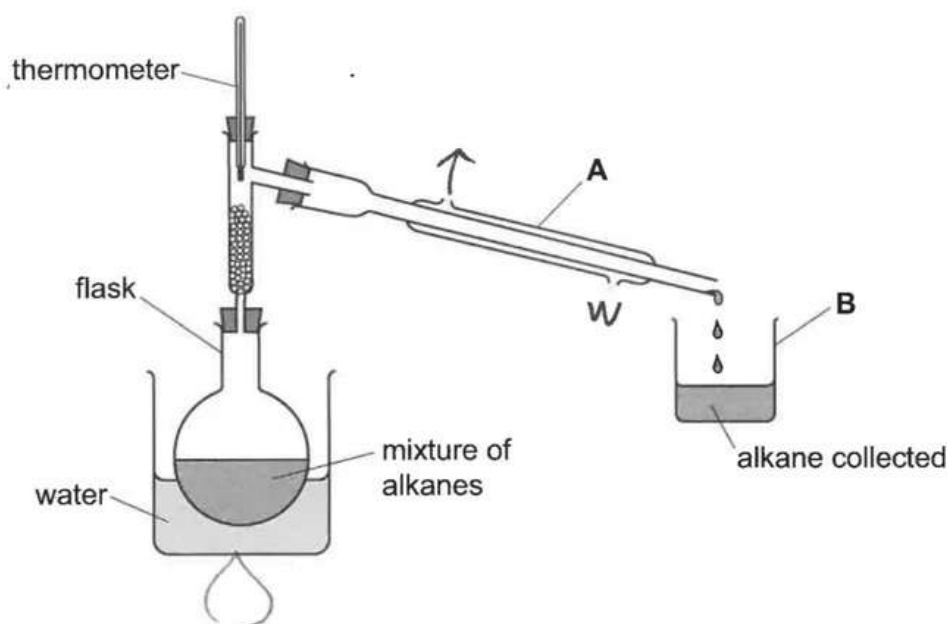

Figure 1.1
A student uses the apparatus shown in Figure 1.1 to separate a mixture of the three alkanes in Table 1.1.
- (a) Name the items of apparatus in Figure 1.1 labelled **A** and **B**.
- (b) (i) Draw an arrow on Figure 1.1 to show where the apparatus should be heated. [1]
(c) Write a **W** on Figure 1.1 to show where water **enters** the apparatus labelled **A**.